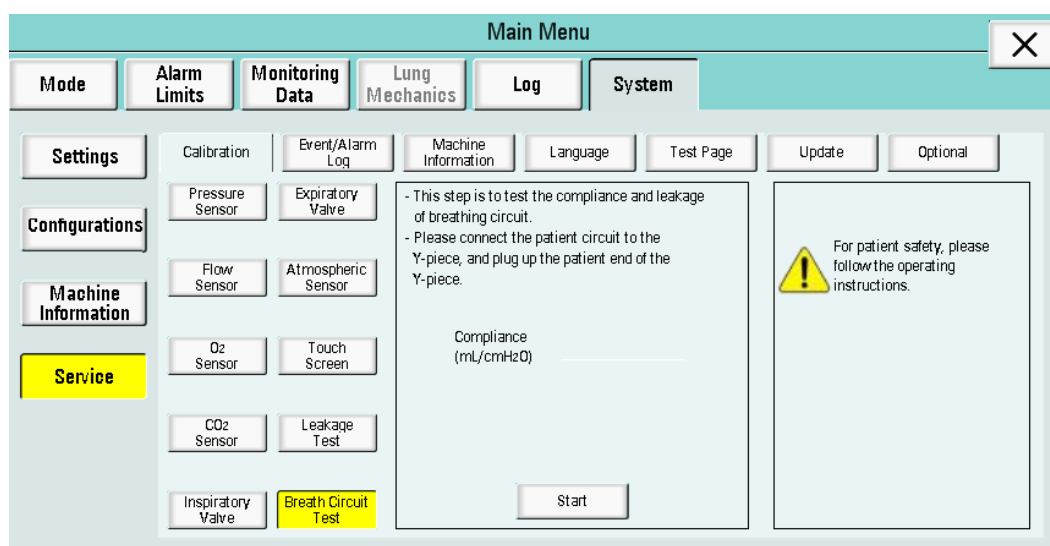

Figure 6-74
(10) Breath Circuit Test Calibration: Click “Breath Circuit Test” to enter the test interface. A message is displayed: “This step is to test the compliance and leakage of breathing circuit. Please connect the patient circuit to the T-piece, and plug up the patient end of the T-piece”, as shown in Figure 6-74.